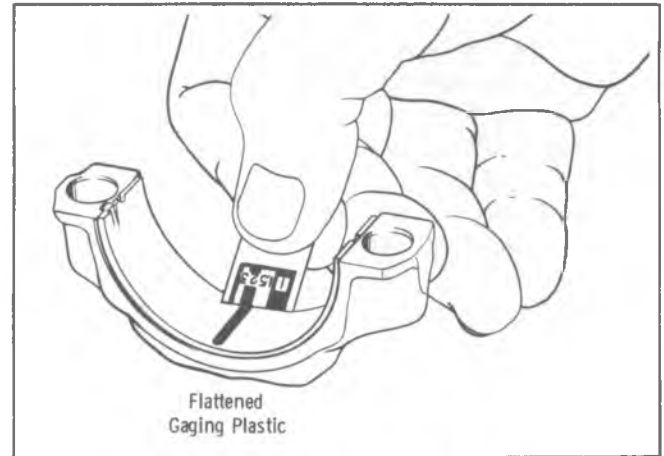

Fig. E-93—Checking Bearing Clearance
5. Remove bearing cap and determine bearing clearance by comparing the width of the flattened plastic gaging material at its widest point with graduations on the gaging material container. The number within the graduation on the envelope indicates the clearance in thousandths of an inch. (Fig. E-93) If the clearance is greater than .0035", REPLACE BOTH BEARING SHELLS AS A SET. Recheck clearance after replacing shells. (Refer to MAIN BEARINGS - REPLACE.)